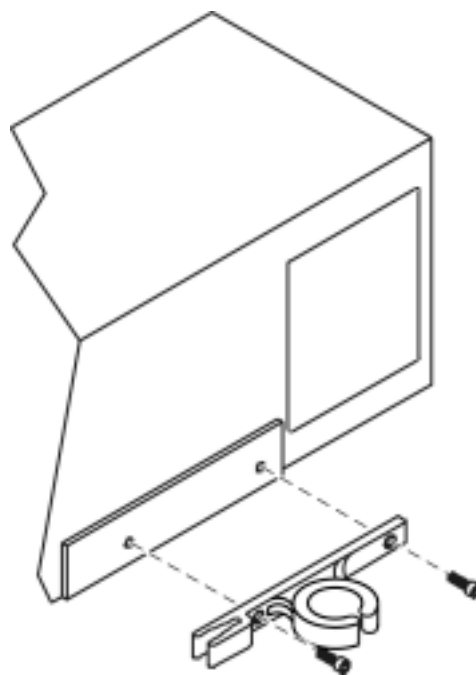

Figure 14: Filter Mounting Bracket Removal
15. Install the filter mounting bracket from the cover assembly. The screws should be torqued to 6 inch/lbs (15 cm/kg). See Figure 14.